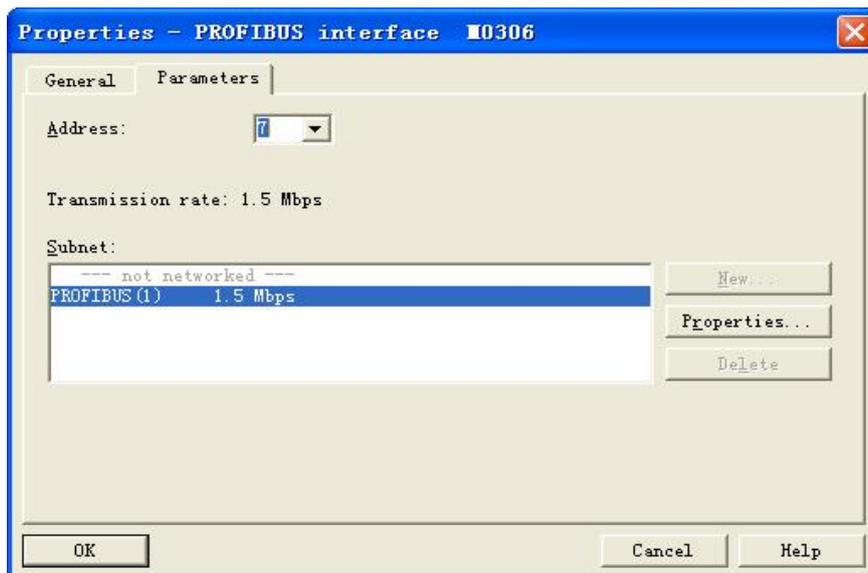

Figure 4.4 Device properties configuration
2) Drag gateway to DP bus, and it will show the properties window automatically. Here shall the user configure the requested address, and we choose address 7, as shown in Figure 4.4: